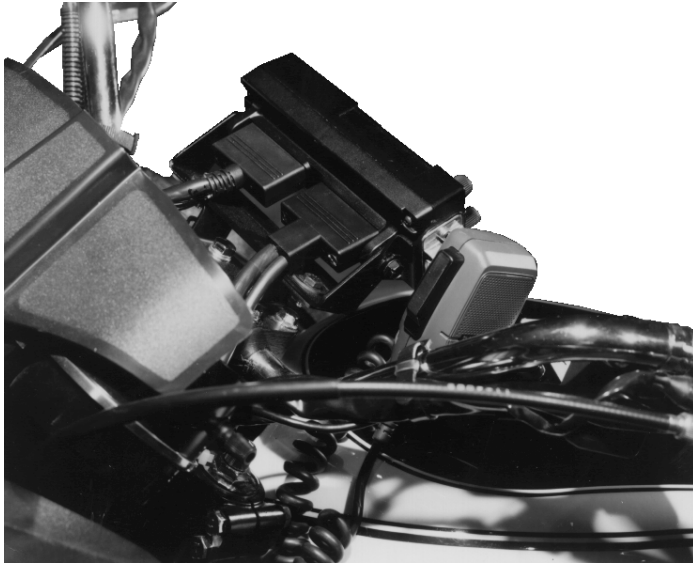

Figure 13 - Control Unit Connections
6. Route the control cable to the rear of the control unit and make the connection to the right rear of the control unit as shown in Figure 13. Any excess cable will reside beneath the saddle area. (The option and accessory cable is shown connected to the left rear of the control unit).